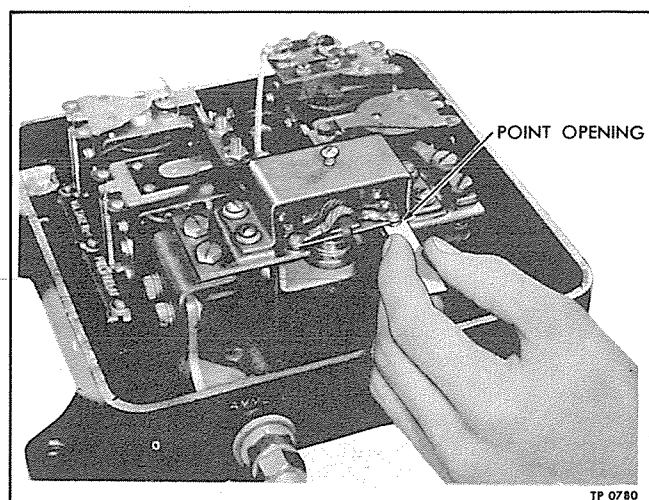

Figure 6—Cut-out Solenoid Point Opening Check
1. Measure point opening gap with feeler gauge (fig. 6). This dimension should be as listed under "Specifications" later in this section.